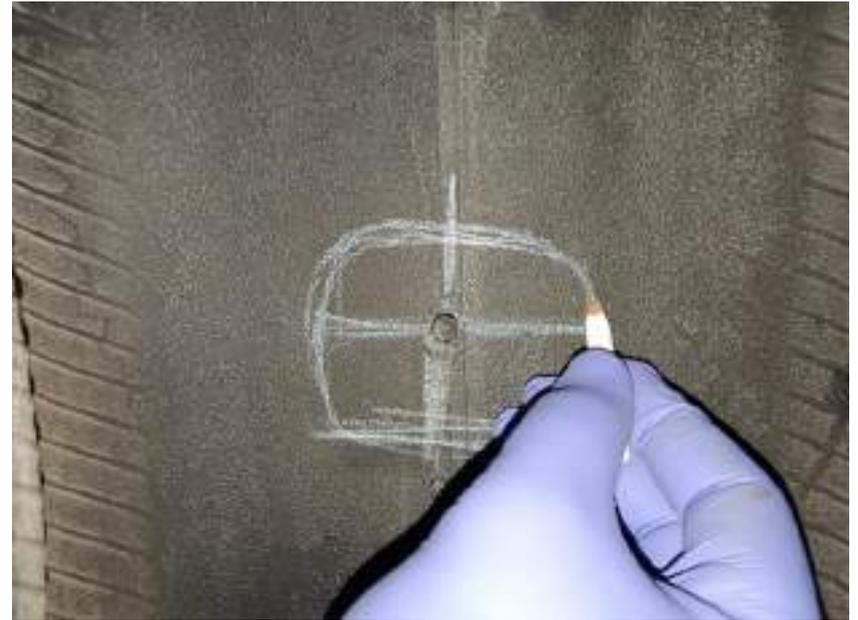

Fig: 1
- Pull the Stem Plug slowly outward – leaving about 2mm of the stem protruding inside as shown in the Fig: 1.**